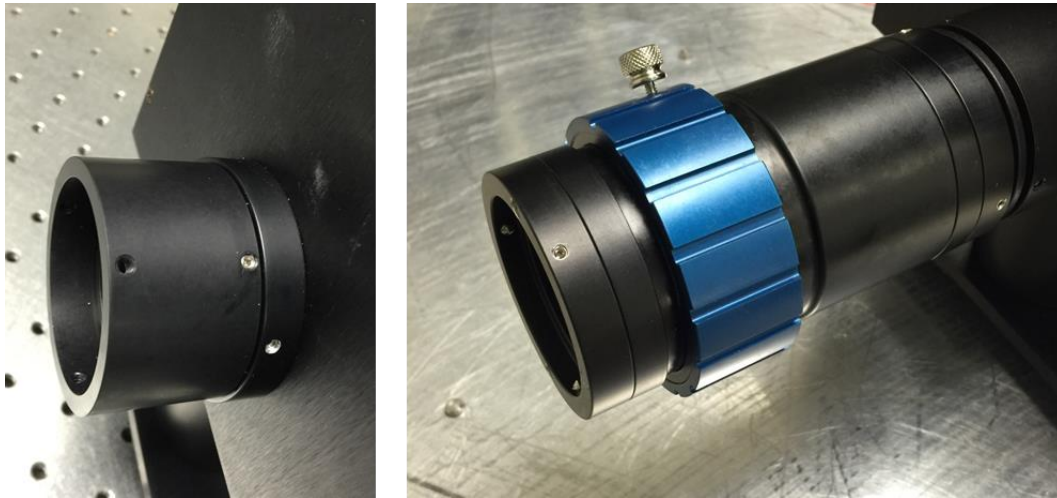
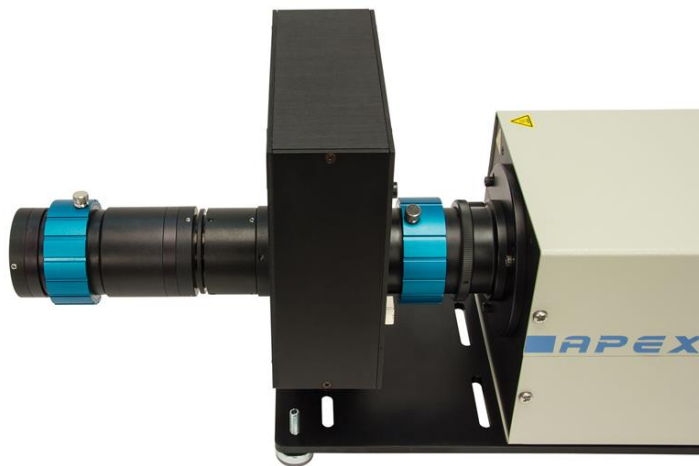

Figure 5: Female flange of the integrated light source unit (left) and installed front lens assembly (right)
Figure 6: Installed front lens assembly with Collimating Lens Adjustment Ring set screw oriented vertically for easy accessibility
2. Insert the male flange of the front lens assembly into the female flange of filter wheel of the integrated light source unit as shown in Figure 5. Install with the set screw of the blue Collimating Lens Adjustment Ring oriented upright as shown in Figure 6. This will make the set screw easily accessible for future adjustment. When the front lens assembly is installed in an optimal orientation, secure the assembly in place with the three 6-32 x 3/16 socket set cone point set screws provided.